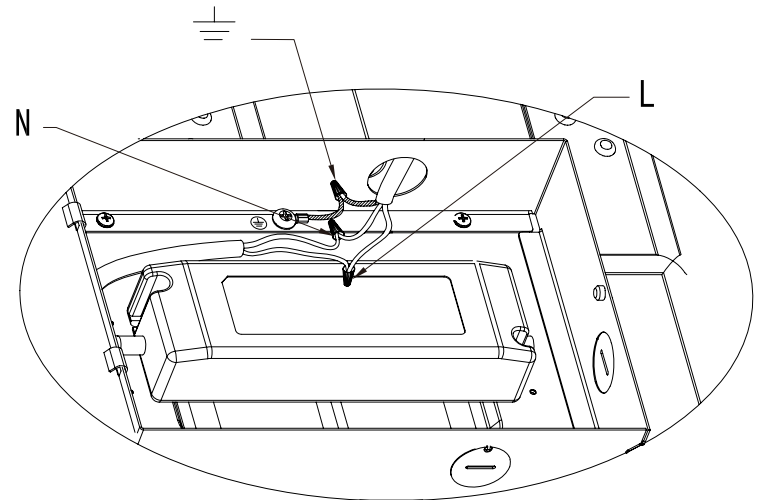

Fig.6
- Cover the wire connections using the wire connectors (not provided). (Fig.6)